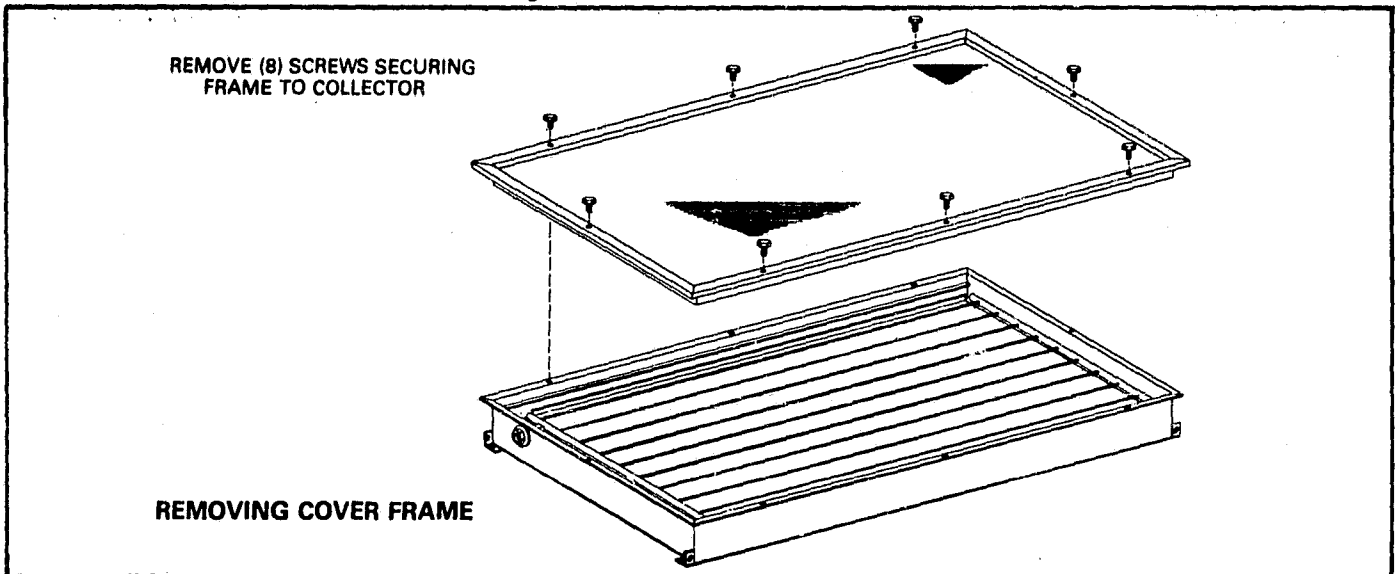
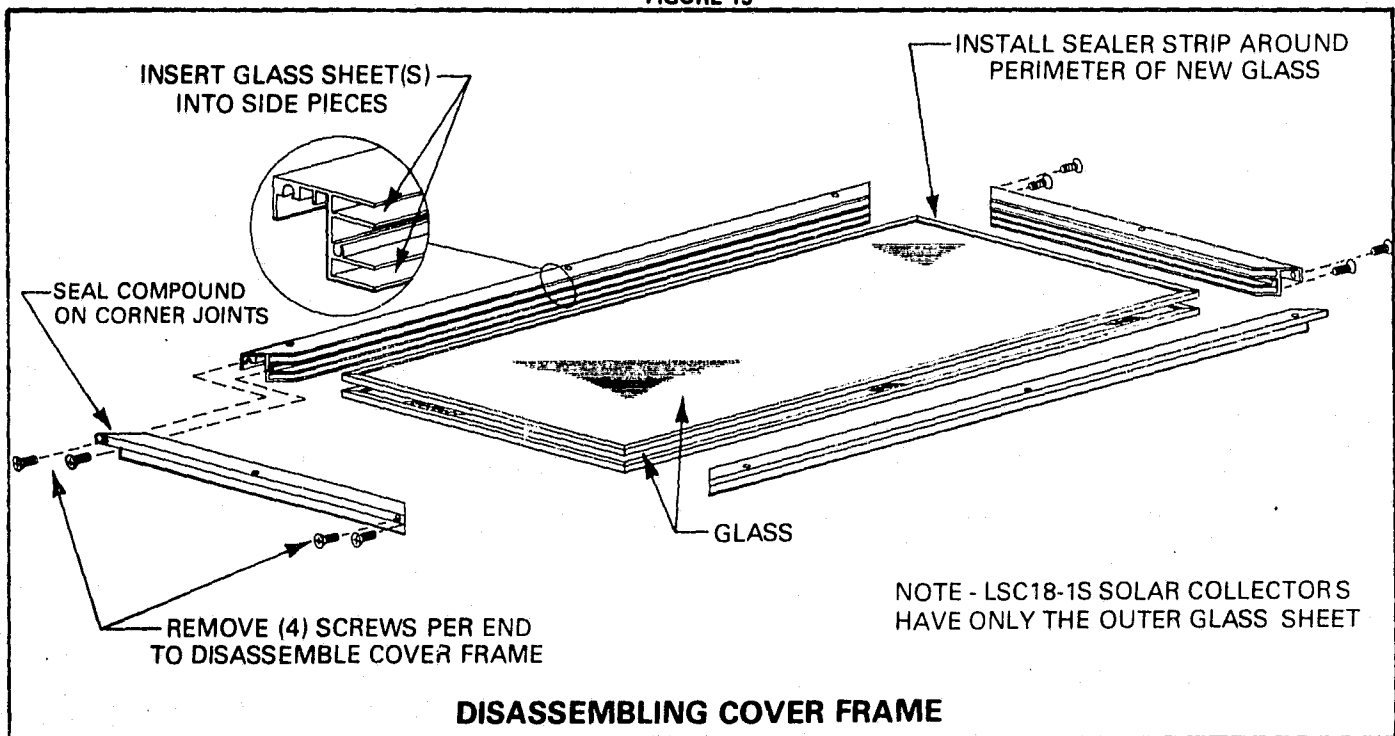

FIGURE 19
FIGURE 20
- 3 - To replace the glass, remove the collector as shown in Figure 19 and dismantle according to Figure 20. To re-assemble frame, insert the glass sheets and new gaskets into side pieces making sure the glass is centered and the ends are even. Next insert the glass into the end pieces and secure with existing screws. Use